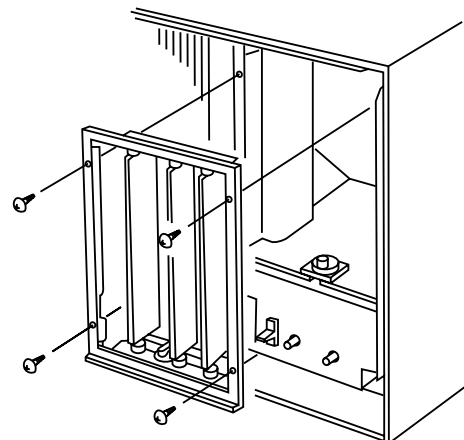

Fig. 19
- (3) Remove the air deflection grille. (Fig. 19)
- (4) Disconnect the grounding wire and the power cord from the cabinet.